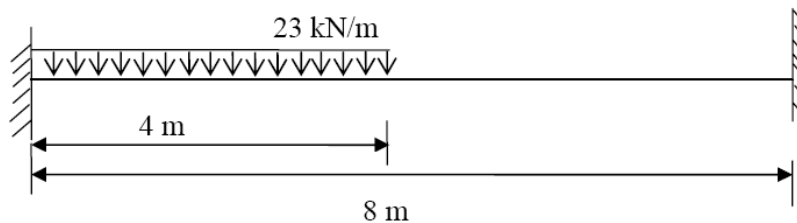

Figure 3:
3. Analyze the fixed beam shown in Figure 3 and draw shear force and bending moment diagrams. Locate the points of contraflexure. [16]